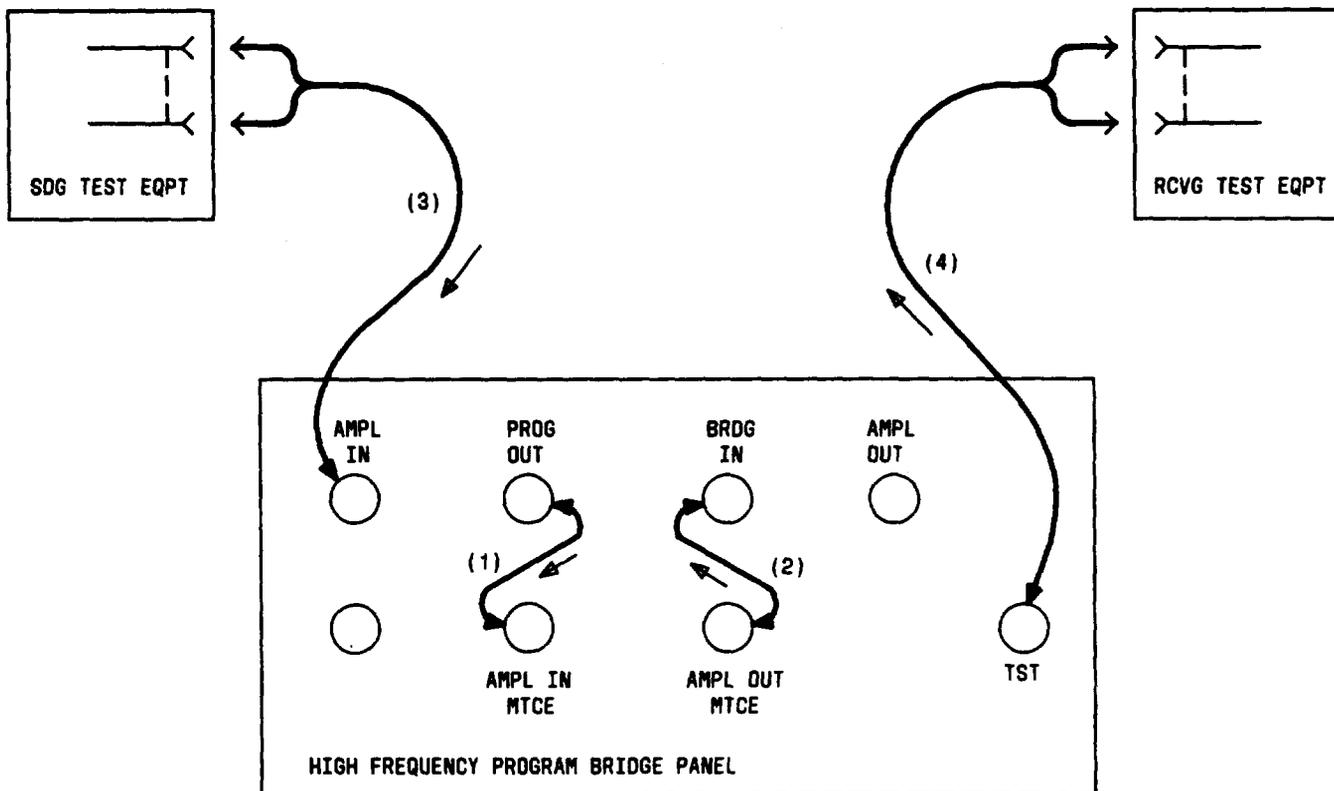

Fig. 4—Patching at High Frequency Program Bridge
7	Connect one end of patch cord 1 to the AMPL IN MTCE jack on the high frequency program bridge panel [patch (1), Fig. 4].
8	Connect one end of patch cord 2 to the AMPL OUT MTCE jack on the panel [patch (2), Fig. 4]. Note: Read the following step completely before patching. Make the following patch cord connections simultaneously to replace a working regular module with the maintenance module.